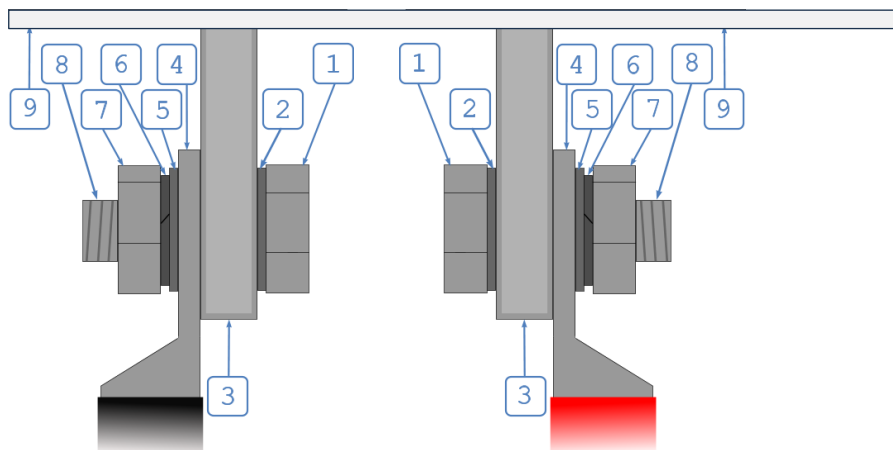

Figure 2.22: Screw and washer assembly on copper bars
2. To ensure the appropriate safety distances, connect load lines with the supplied screws and washers to the copper bars so that they run straight on from the copper bars, corresponding to Figure 2.22.
The following **numbers** refer to Figure 2.22.